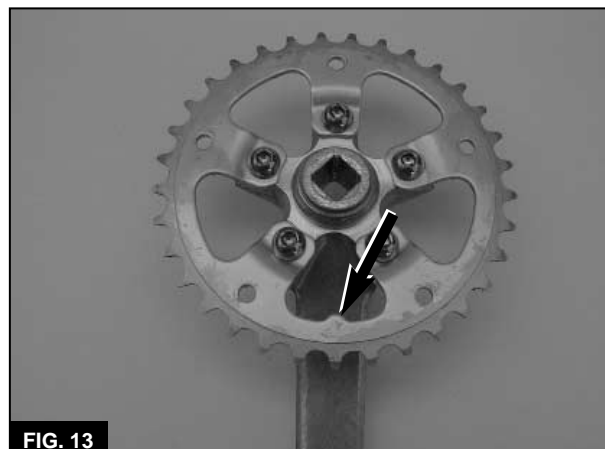

FIG. 13
2. Examine the inboard side of the crank-arm/chainring. Note that the chainring is mounted so the cutout with the tab aligns with the crank arm (**Figure 13**). The chainring will have to be mounted in this position during installation.
2. Be sure the cutout with the tab (**Figure 13**) aligns with the crank arm.